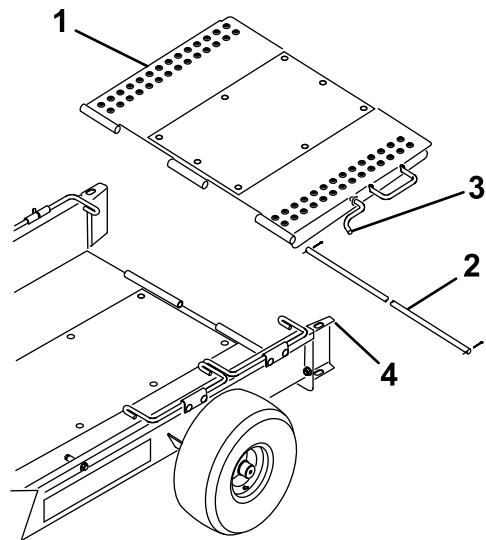

Figure 4
- 5. Mount the trailer ramp to the rear of the trailer bed with the hinge rod and 2 cotter pins (Figure 4).
8. Pivot the trailer ramp upward and hook the ramp latch into the hole in the top of the wheel guide (Figure 4).